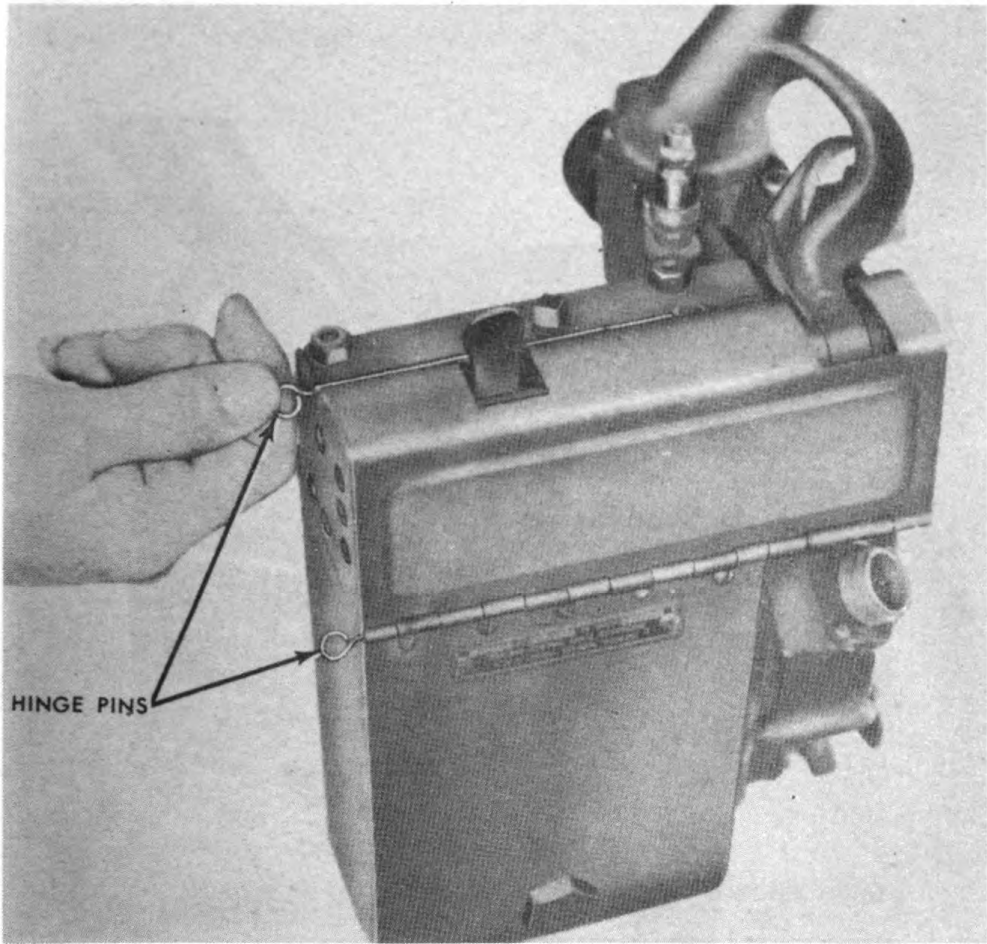

Fig. 87. Removing hinge pins.
b. Removal of housing assembly from control assembly. (1) Disconnect pressure gage tube from gasoline container by unscrewing tube nut.
(2) Remove control dust cover by pulling out the two hinge pins (figs. 87 and 88).